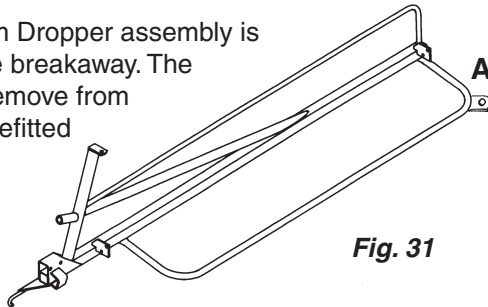

Fig. 31
- A mount tab (**A**) for the Foam Dropper assembly is fixed to the outer edge of the breakaway. The Dropper assembly is to be removed from the mount bracket arm and refitted to the mount tab (**Fig. 31**).